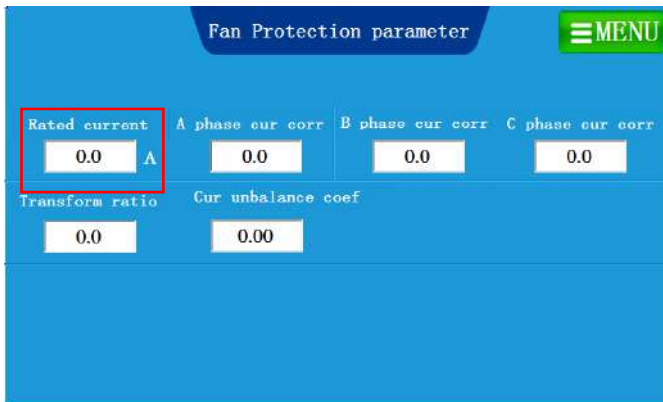

Figure 4-17 Fan protection parameter interface
2. Choose **Fan Para**. The page shown in Figure 4-17 is displayed.